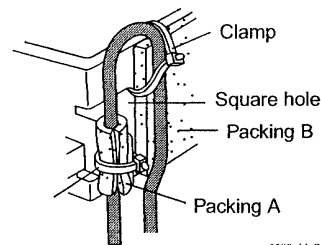

Fig. 9c
- (6) Insert the second clamp in the square hole of the mounting valve, and bind it so the tube assy is in contact with packing B. (Fig. 9c)